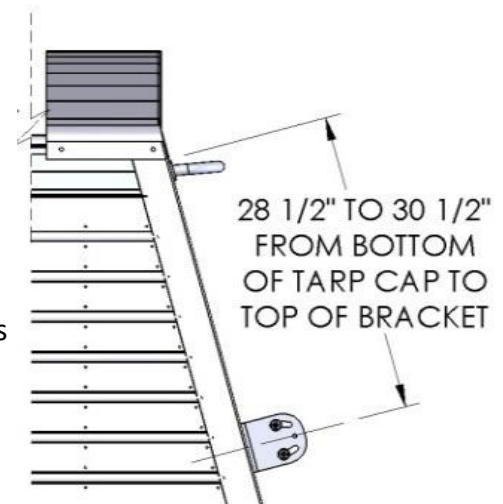

Figure 2. Bracket location for slant nose trailers
2. For slant nose trailers measure approximately 29 1/2" from the bottom of the tarp cap. See *figure 2*.